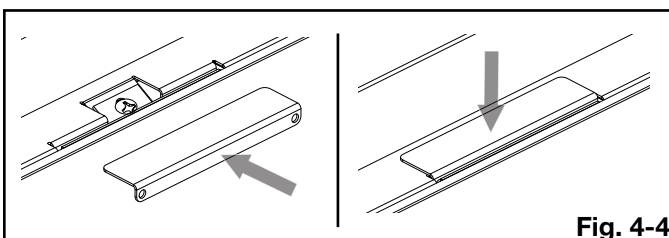

Fig. 4-4
3. Cover the screw with the centre screw cover plate (supplied) (**Fig. 4-4**).